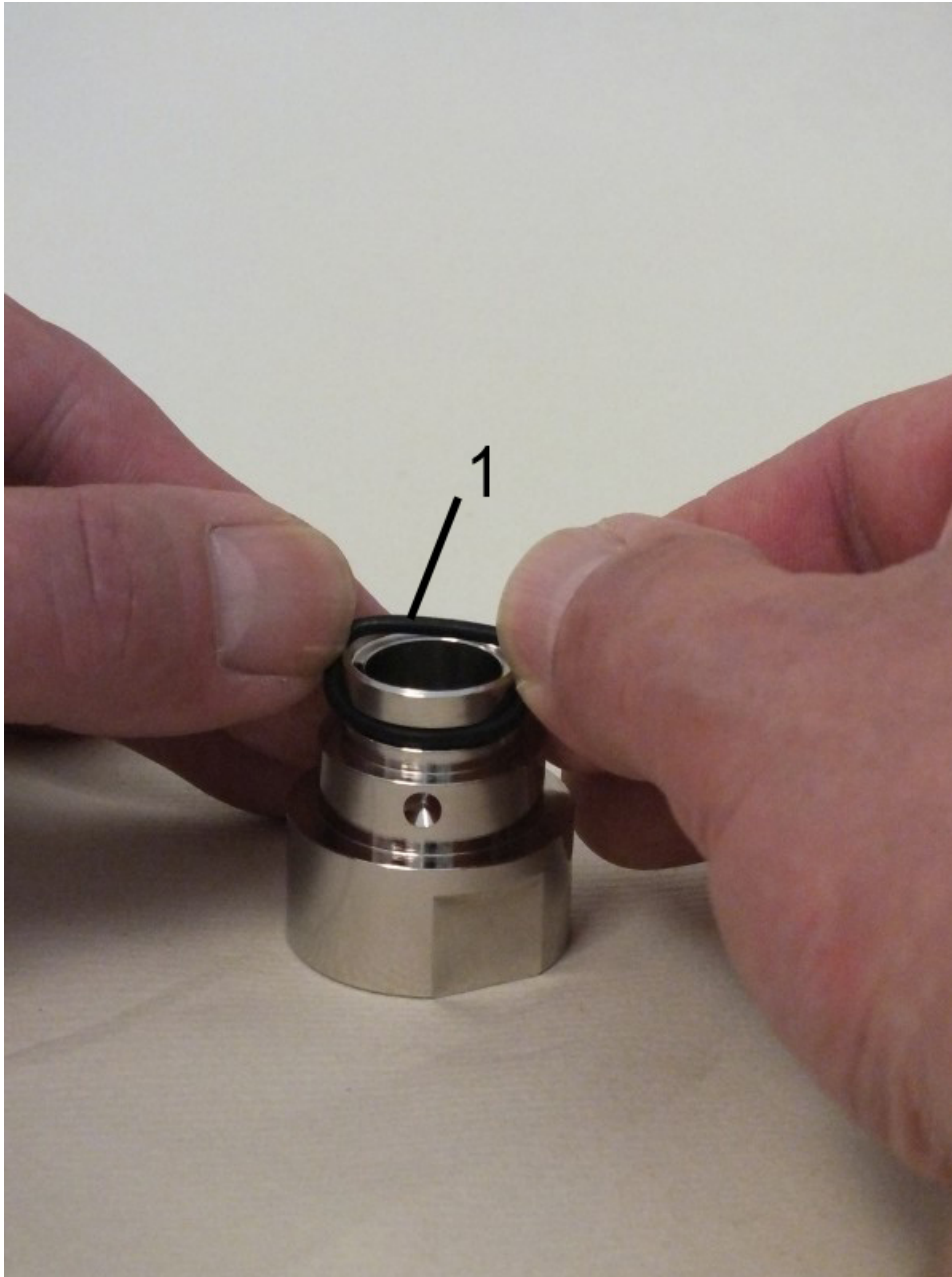
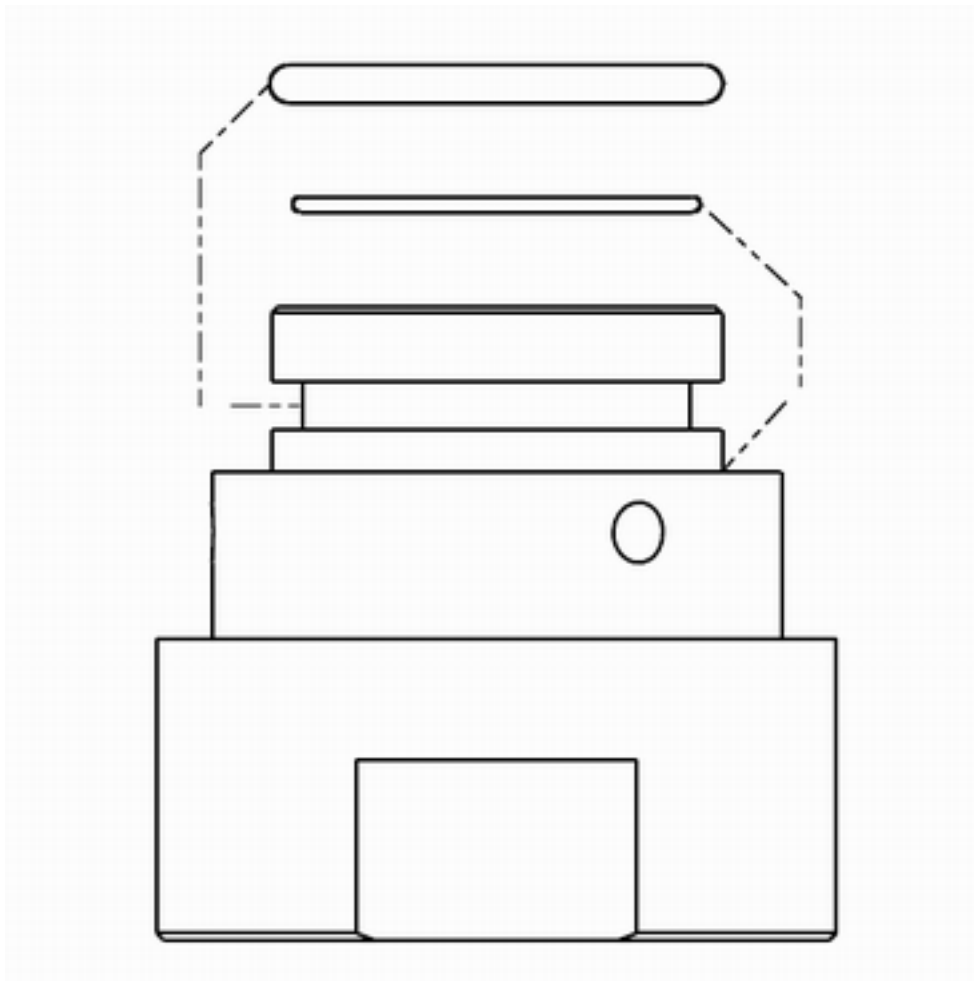

Fig. 39: O-ring (seal)
Fig. 41: Position of O-rings
- 1.** Carefully install the O-ring (seal) onto the process connection (*Fig. 39/1*), so that it rests in the upper O-ring groove of the process connection (*Fig. 41*). When doing so, be careful not to overstretch the O-ring.
- 2.** Carefully seat the O-ring (glass buffer) on the process connection (*Fig. 40/1*), so that it is properly seated on the lower portion of the process connection (*Fig. 41*). When doing so, be careful not to overstretch the O-ring.